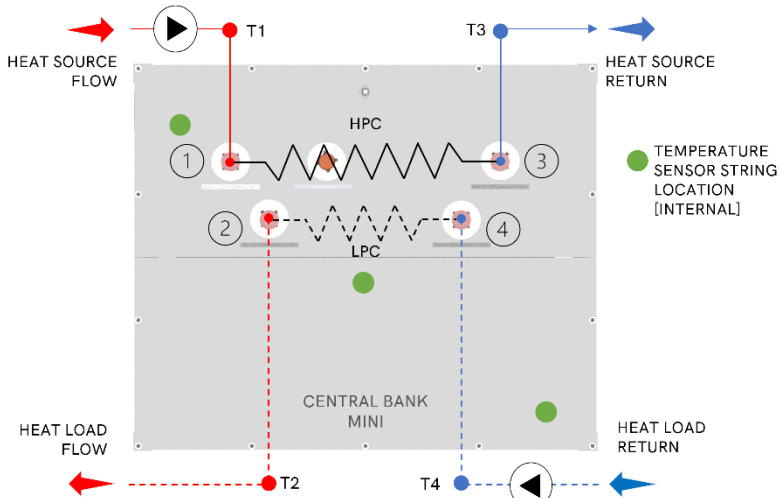

Figure 7: Central Bank Mini configured as a heat buffer with hydronic separation
- The hydronic connection arrangement shown in Figure 7, should be considered when either a) hydronic separation between the heat source and heat load is required, or b) simultaneous charging and discharging of the heat battery is required.